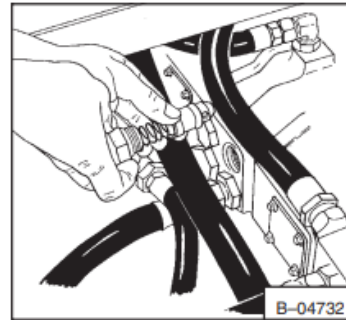
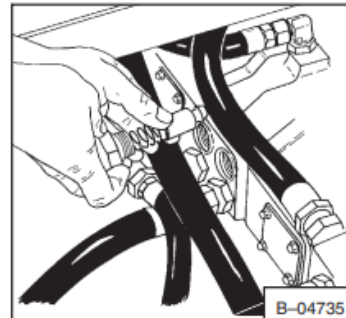

Fig. 3-153 Removing Relief Valve
Fig. 3-154 Removing Rear Relief Valve
2. Remove one plug, spring and high pressure relief valve from the front pump (Fig. 3-153) and remove the same from the rear pump (Fig. 3-154).